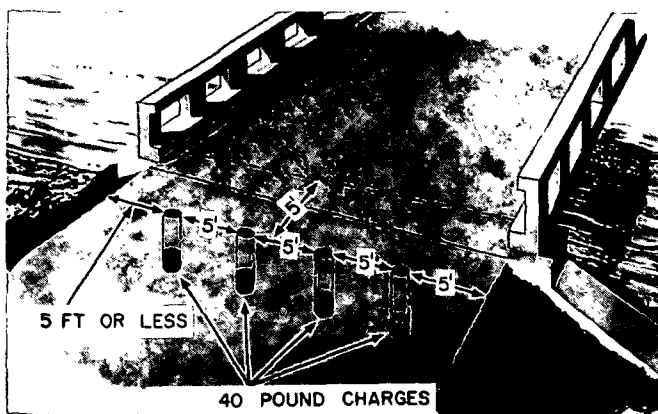

Figure 115. Placement of charges on concrete abutment.
b. Concrete. Because of the difficulty in placing internal charges, concrete is normally attacked by external charges calculated to blast through its entire thickness (see fig. 115). In attacking